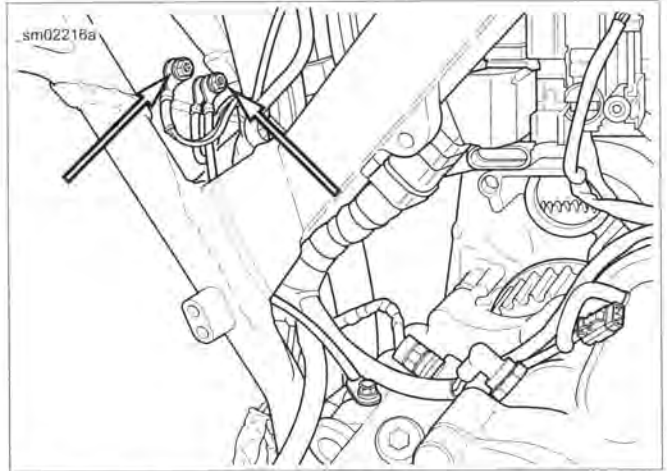

Figure 7-19. Vehicle Ground Studs and Routing
- See Figure 7-17 and Figure 7-19. Route negative battery cable toward left side of motorcycle and then down to transmission ground stud.